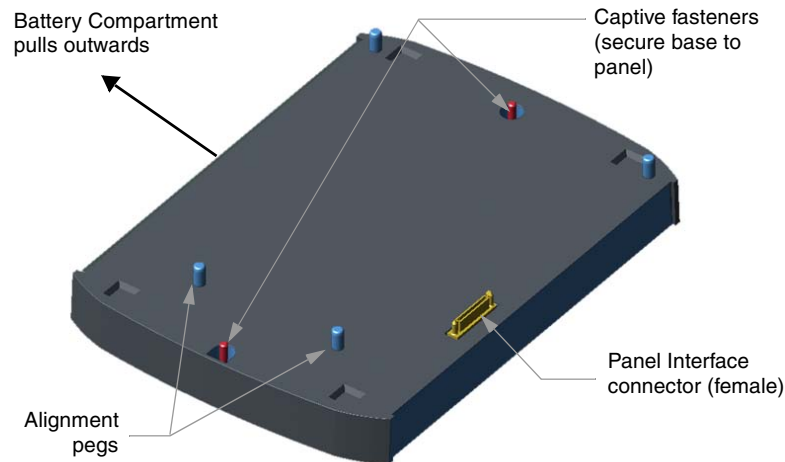
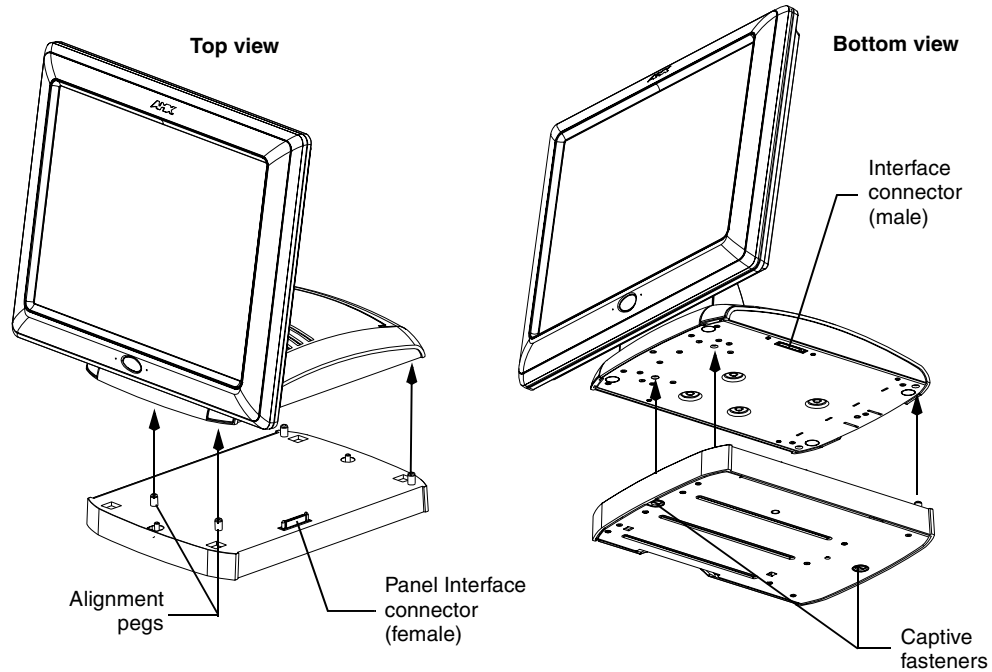

FIG. 27 NXA-BASE/B showing Panel Interface and connector locations
FIG. 28 NXA-BASE/B shown aligning with NXT panel
3. Verify the alignment of the Panel Interface connectors between the panel (male connector) and base (female connector) (FIG. 27).
4. Carefully place the Modero panel over the base alignment pegs (FIG. 27 and FIG. 28).
5. Gently apply downward pressure until the panel is securely mounted to the battery base (FIG. 28).